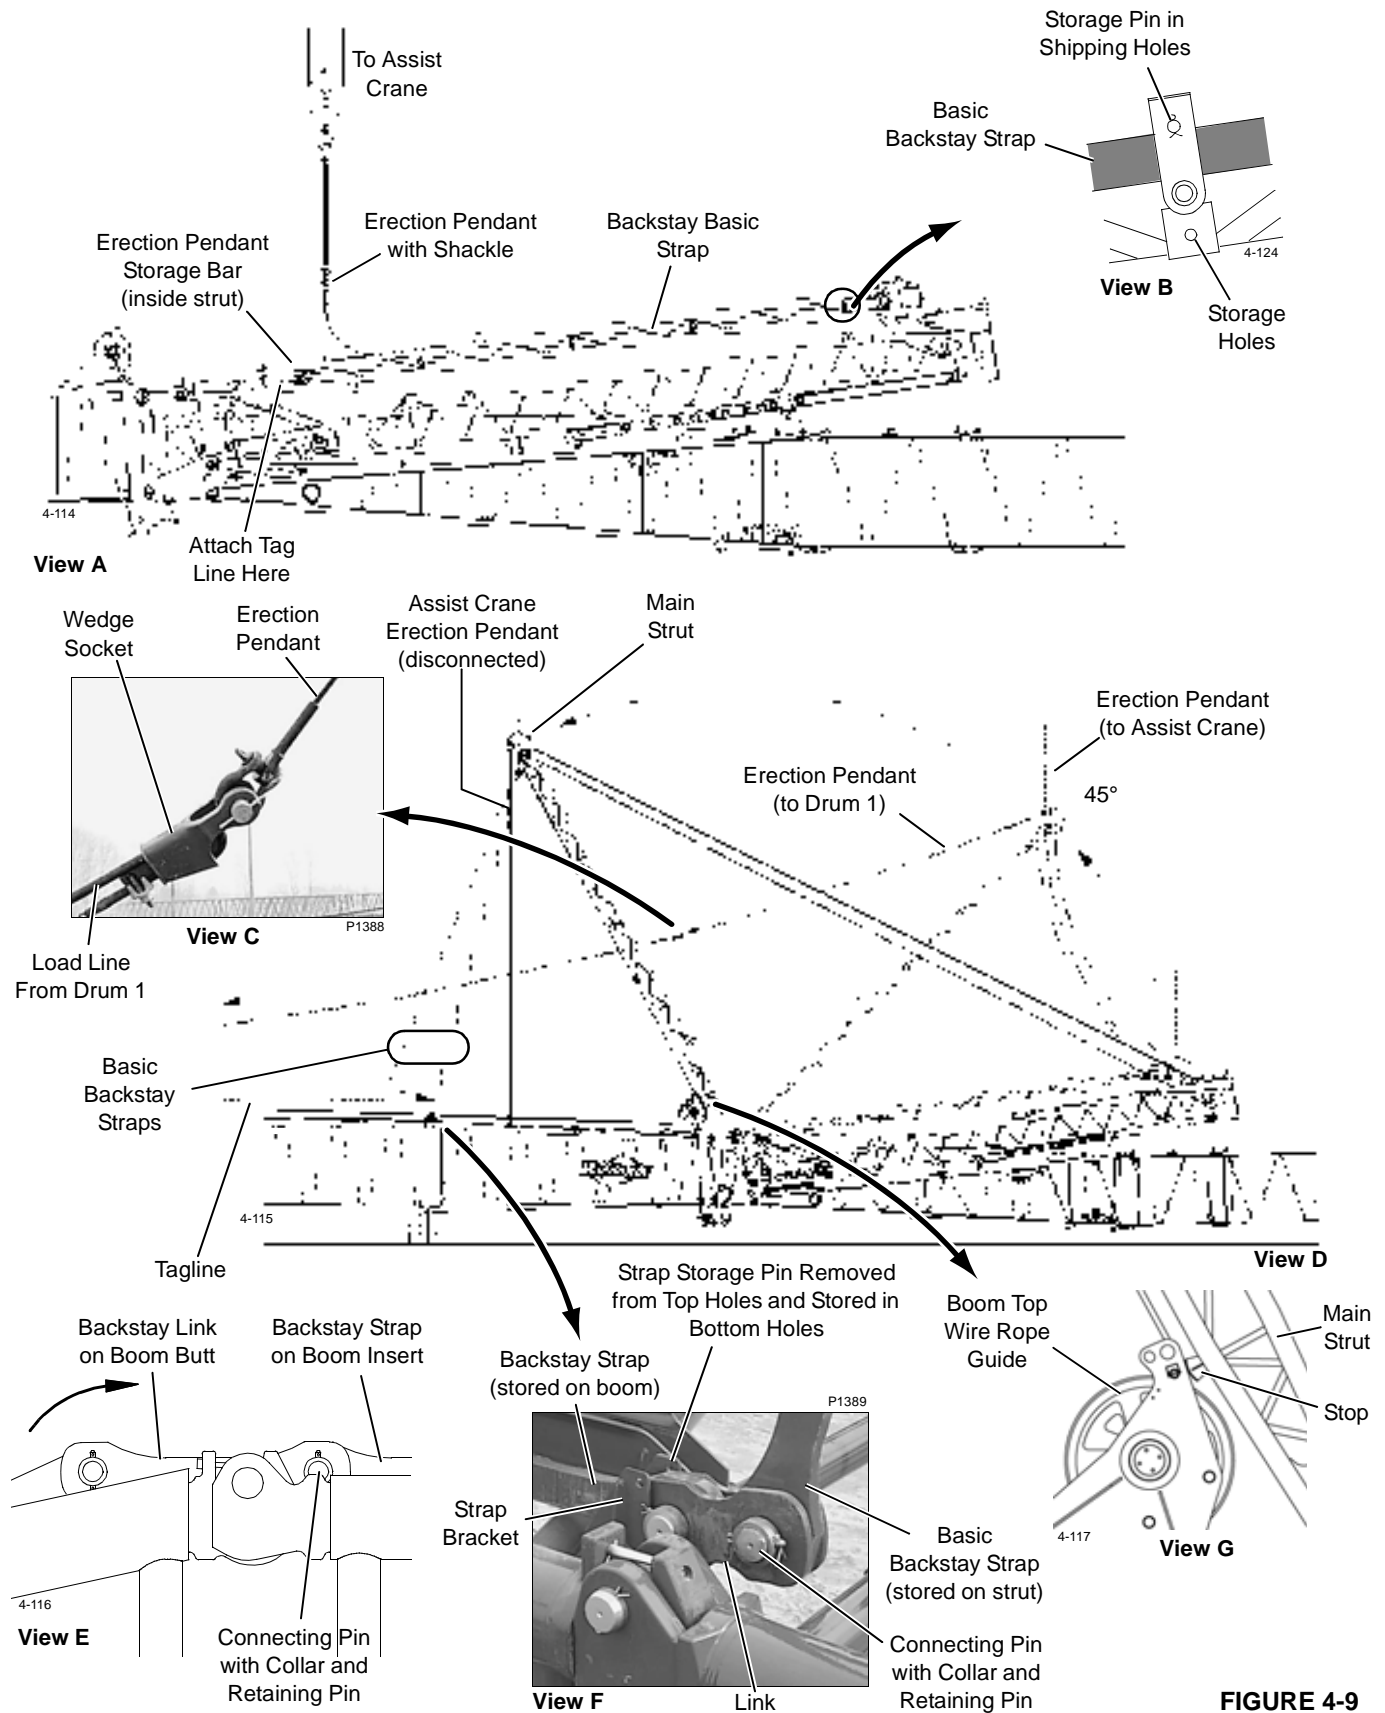

FIGURE 4-9
See Figure 4-9 for following procedure.
See Figure 4-9, Views E and F for following procedure.
2. Attach both erection pendants to storage bar on main strut with shackles on ends of pendants (Figure 4-9, View A).